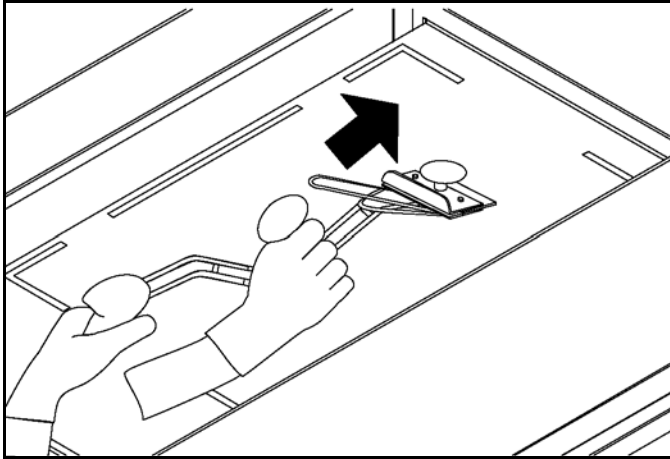

Figure-93
- Using the grill scraper, scrape the grease on the lower grill plate from front to back. **Do not** scrape across the rear of the lower grill plate with the grill scraper. See Figure-93.